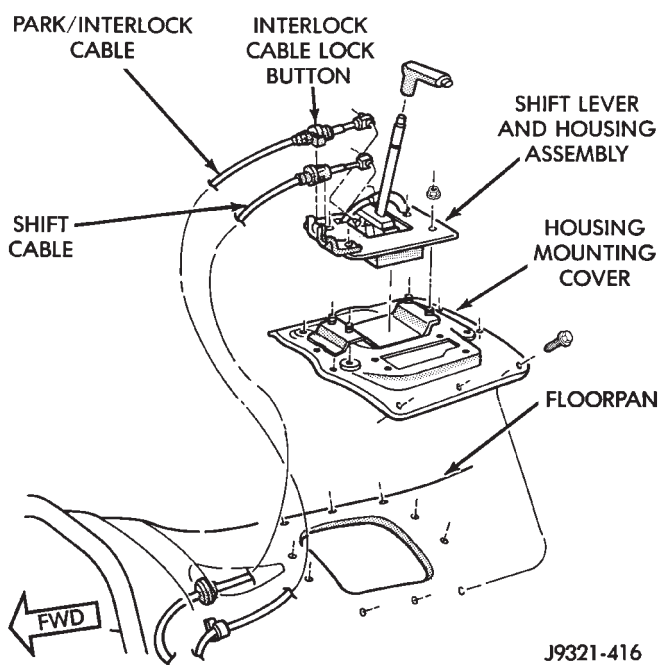

Fig. 6 Shift And Park Interlock Cables
(3) Remove shift lever bezel and console screws. Raise bezel and console for access to cable.
(4) Pull cable lock button up to release cable (Fig. 6).
(5) Pull cable forward. Then release cable and press cable lock button down until it snaps in place.
(6) Check cable adjustment as follows: